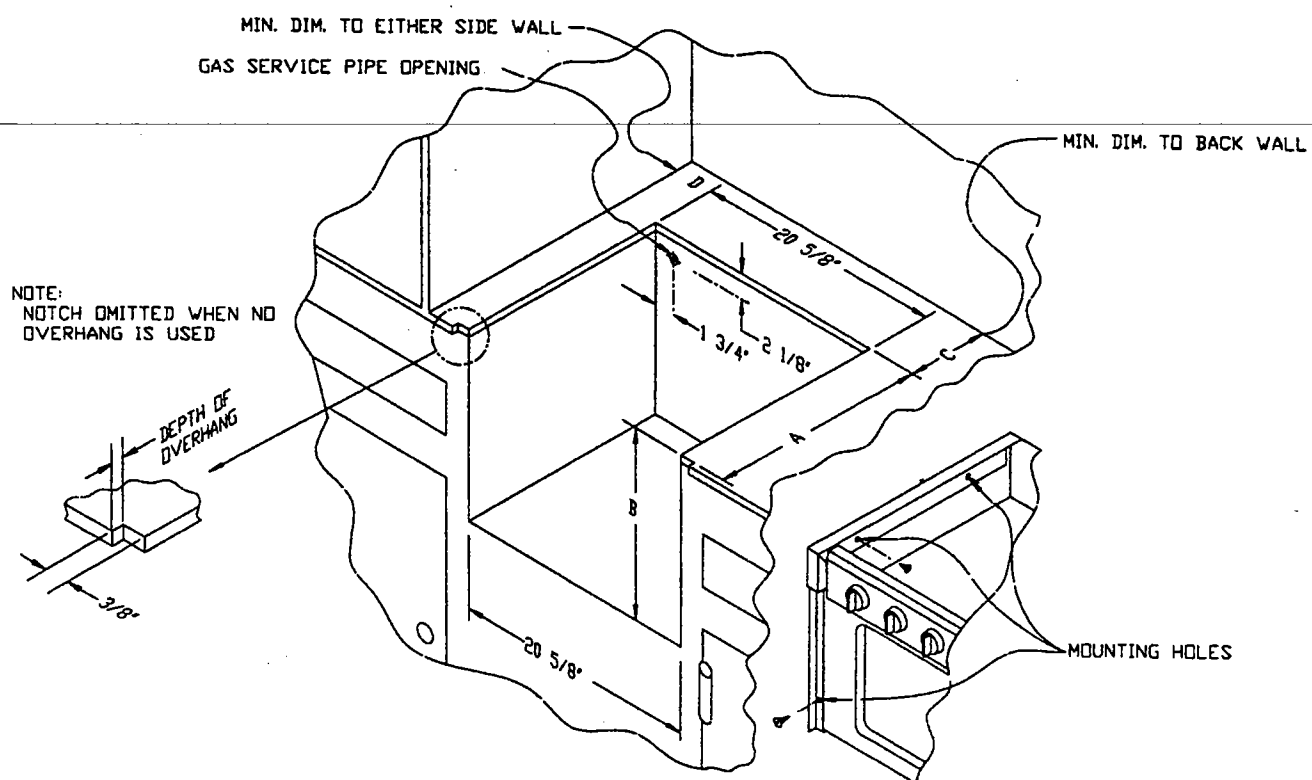

Figure 2
3. Cut-out dimensions illustrated in Figure 2 are as follows:
**NOTE:** Counter tops with an overhang must be notched 3/8 inch minimum as shown in Figure 2.